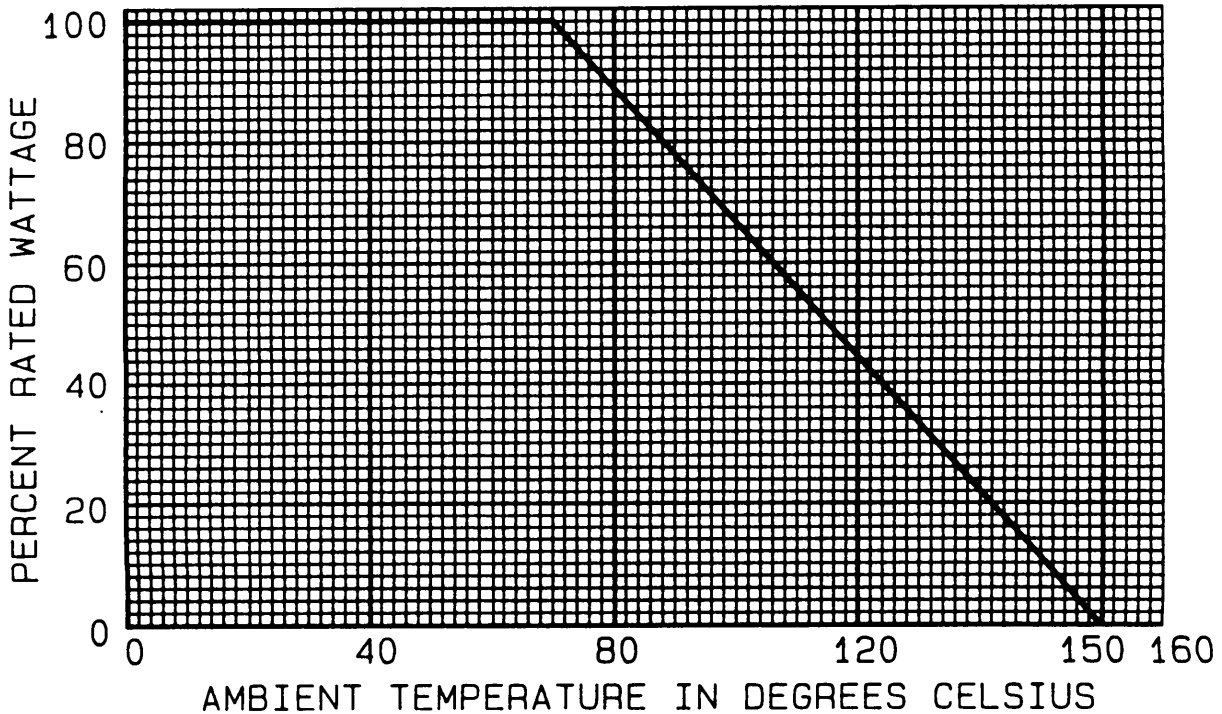

FIGURE 102-1. Derating curve for high ambient temperature.
2.1.2 Power rating. These resistors have a power rating based on continuous, full-load operation at an ambient temperature of +70°C. If the resistors are to be operated at temperatures exceeding +70°C, the resistors must be derated in accordance with figure 102-1.